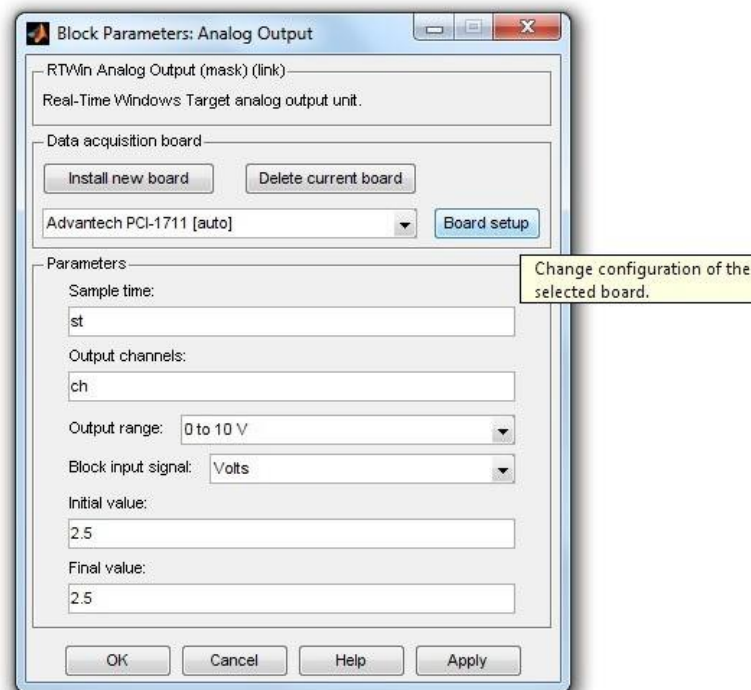

Figure 32 Feedback DAC Block - Selecting the I/O Card
- If we run the PCI-1711U card experiment for the first time we can double click on the Analogue Output block and register the PCI-1711U card in the Matlab environment (Figure 32).